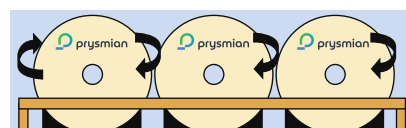

Fig. 2
- ✔ The drums must always be stored with their flanges vertical. Leave enough space between stored drums for air circulation (see fig. 2).
- ✔ If drums are stored in a high traffic area (fork lifts frequent transit) suitable barriers should be erected to prevent damage from moving equipment (see fig. 2).